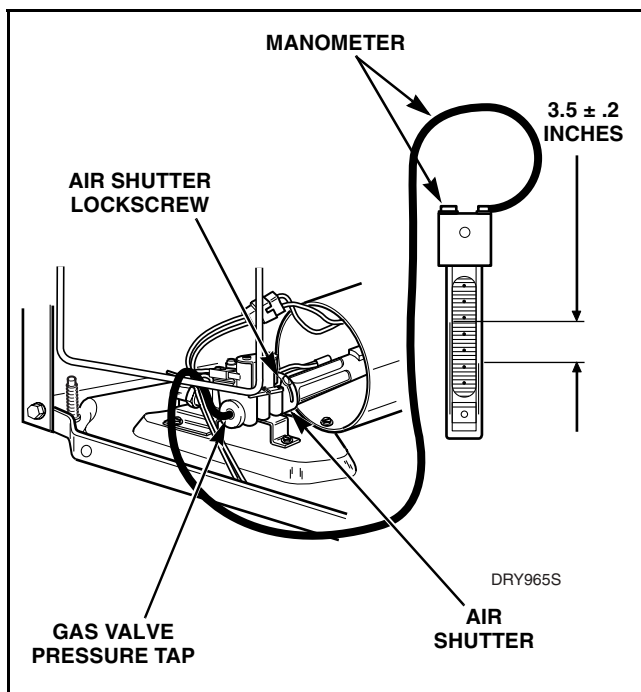

Figure 49
- Connect a “U” tube manometer (or similar pressure gauge) to the pressure tap. Refer to *Figure 49*.
- Start dryer, pressure should be  $3.5 \pm .2$  inches ( $8.89 \pm .508$  cm). Refer to *Figure 49*.
- Loosen air shutter lock screw. Refer to *Figure 49*.
- Turn air shutter to the right or left as necessary to obtain proper flame intensity. Refer to *Figure 49*.